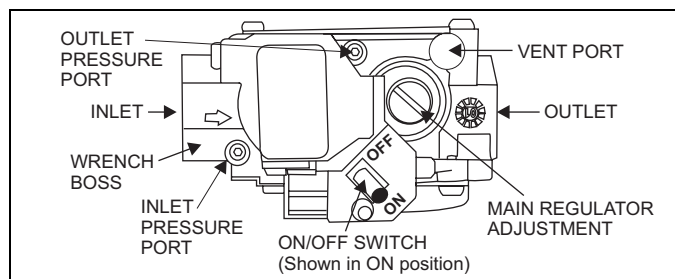

FIGURE 37: Gas Valve
5. Refer to Figure 37 for location of pressure regulator adjustment cap and adjustment screw on main gas valve.